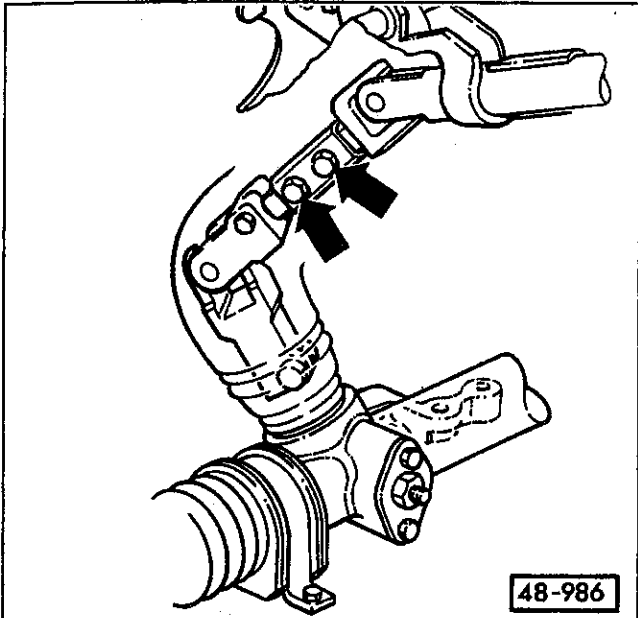

Fig. 13. Universal joint shaft bolts (arrows).
3. Remove bolts from universal joint shaft. See Fig. 13.